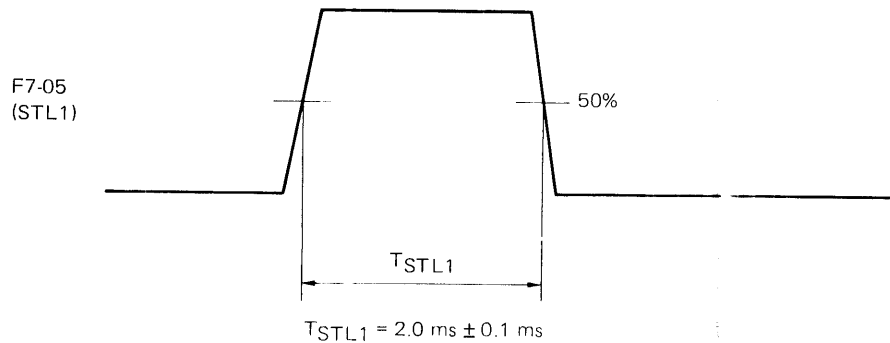

Figure 6-6-8 Settling 1 Adjustment
5. Adjust potentiometer RV4 so that the following T_{STL1} is $2.0 \text{ ms} \pm 0.1 \text{ ms}$ (Refer to Figure 6-6-8).